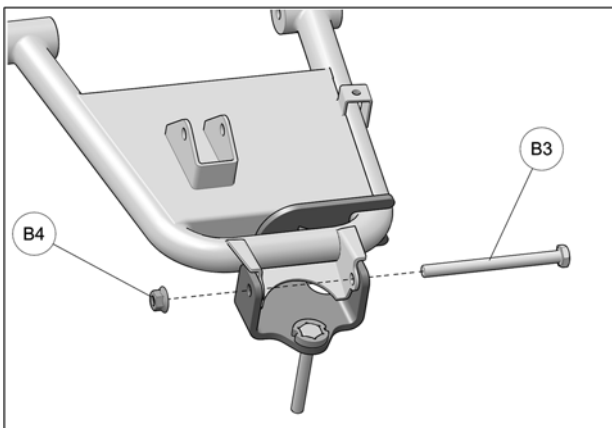

Fig. 7
7. Insert new M10x120mm bolt (B3) through anchor bracket, suspension arm and wheel knuckle. Secure assembly with the provided M10 nut (B4). Torque nut to 50 N•m [37 lb•ft]. See Fig. 7